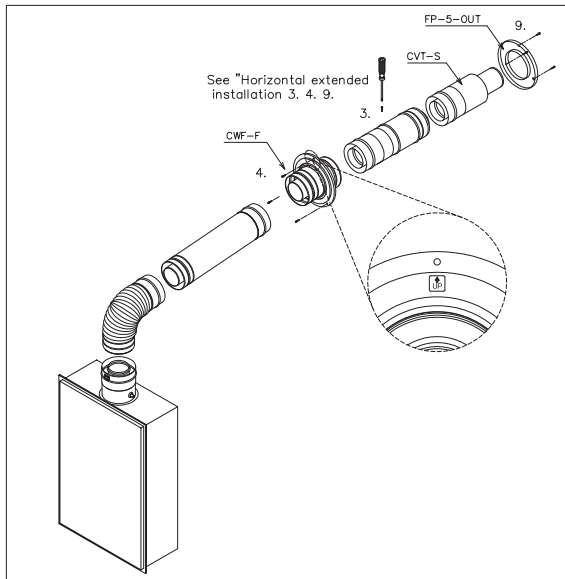

Fig 2 Horizontal extended installation (CWF-F)
### Horizontal extended installation (See Fig 2)
4. Attach CWF-F on the inner wall by 3 appropriate screws. (See Fig 2)